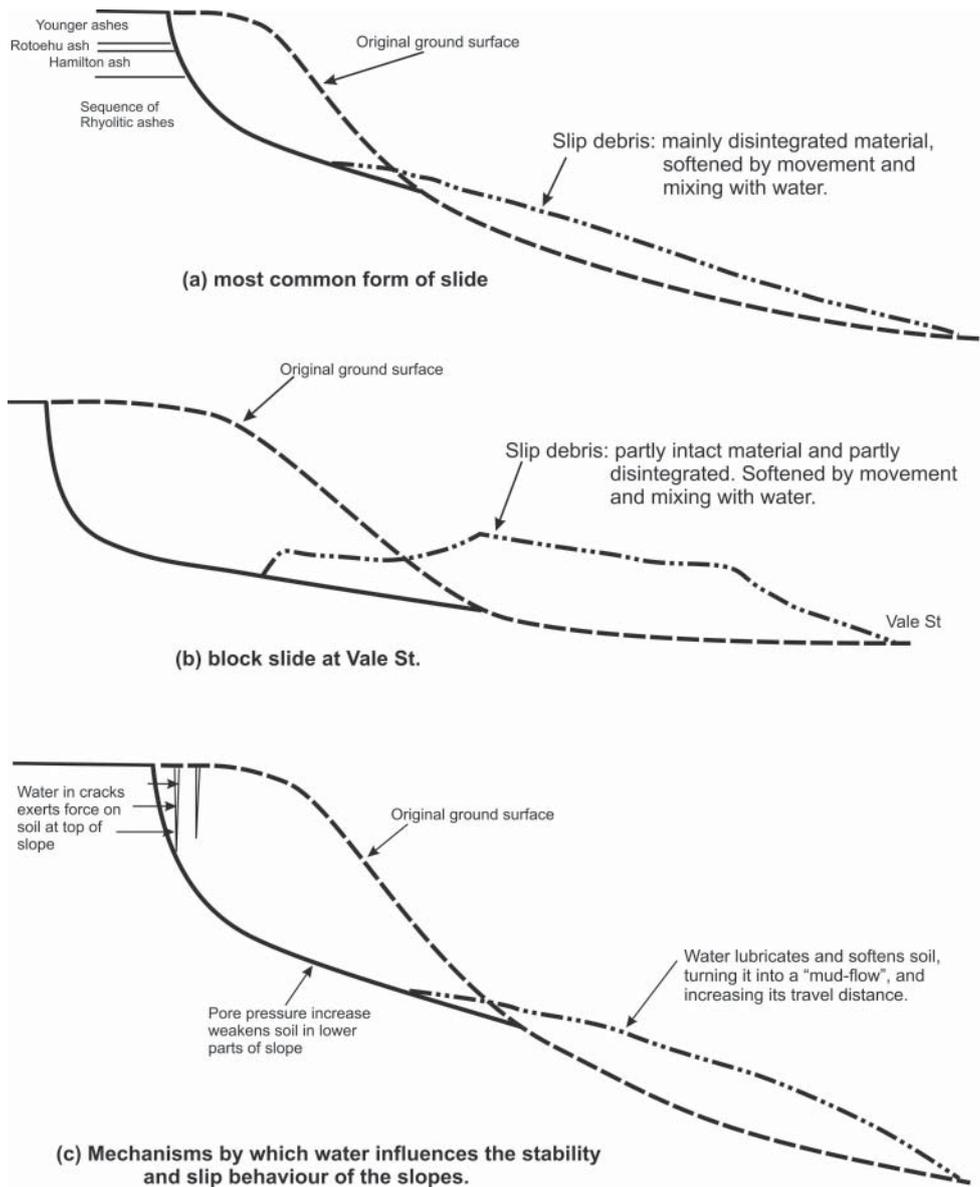

Figure 1. Forms of the slope failures.
2. Most of the slips had the form of relatively shallow circular arc failures. They did not generally occur over the full height of the slopes, being restricted to the upper half (or two thirds) of the slope. This was natural because of the buttressing effect of previous slip debris at the base of the slopes. The most common form of failure is illustrated in Figure 1(a) below. The slip material generally disintegrated as it moved, and became mixed with water to form minor “mud flows”. The distance travelled depended on the shape of the slope, the sensitivity of the soil, and the quantity of water available.
3. One slip that was rather unique was the large slip in Vale St that pushed a house below it a considerable distance towards the road in front. This slip extended over almost the full height of the slope and had the form of a “block” slide, with movement occurring on a preferred layer with a gentle dip towards the road. The block of soil moved semi-horizontally taking the house with it. The block partly disintegrated as it moved. The form of this slide is shown in Figure 1(b).
5. Figure 1(c) attempts to illustrate diagrammatically the way in which water induces slips in slopes. The mechanism is not one whereby previously “dry” soil becomes wet. All soils, especially those in Tauranga, which consist of fine-grained clayey materials, contain a large (and essentially constant) quantity of water all year round, and apart from a shallow zone near the surface, are fully saturated. The influence of periods of intense rainfall is to “pressurise” this water, and consequently to reduce the shear strength of the soil. The longer the time over which the site is subjected to abundant supplies of surface water, the greater will be the increase in pressure and the consequent weakening effect. (*Sorry if this is all very elementary*).